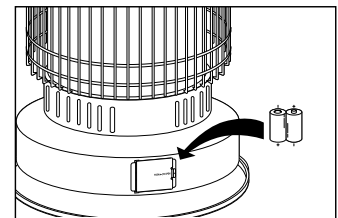

Fig.8
**F) INSTALLING BATTERIES:** (Fig.8)